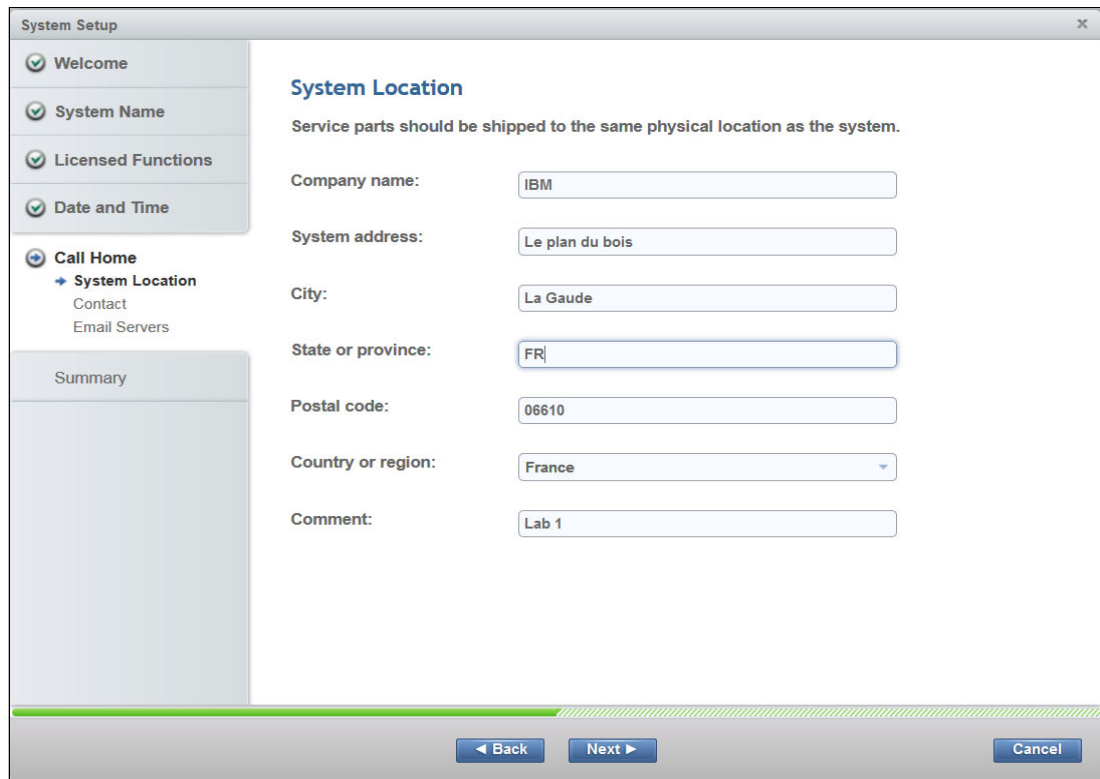

Figure 6-16 Physical system location
1. Validate or enter the system location (Figure 6-16).